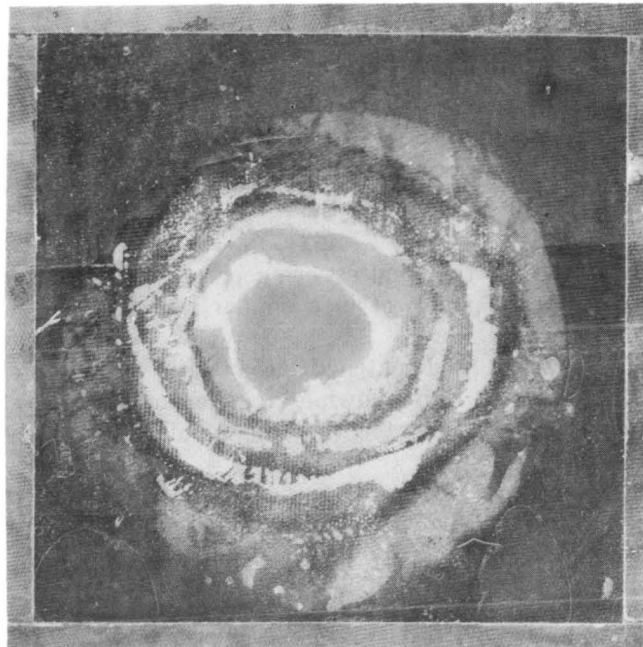

Fig. 25—Completed Class E Repair
6.26 Upon completion of the cure, remove the plastic film and the tape. Ridges of cured resin can then be sanded smooth, using care to avoid cutting through the resin skin into the glass fibers. If this resin is broken, abraded area must be recoated with fresh resin mix, covered with plastic film, scraped and cured. (See Fig. 25.)